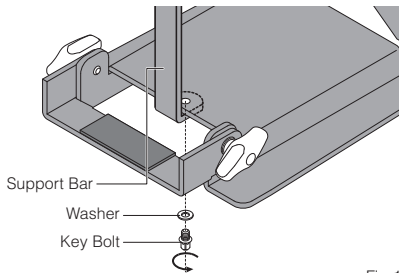
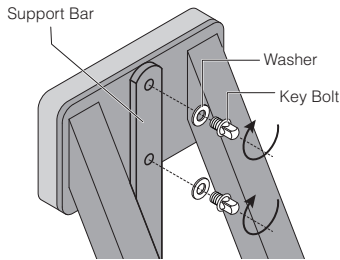

Fig.1
Fig.3
1. Partially raise the Pad on the Base Assembly and turn it on its side to rest on a stable flat surface. Next, place the Support Bar with the angled end under the base assembly. Insert a Key Bolt with Washer through the Support Bar into the threaded hole in the Base. Slightly tighten by turning the Key Bolt clockwise (Fig. 1). *Do NOT fully tighten the Key Bolt.*
3. Insert both Key Bolts with Washers through the Support Bar into the threaded holes located on the back of the PAD and finger tighten (Fig.3).
4. Next, firmly secure the Support Bar to the Pad and Base by tightening all three Key Bolts using the Drum Key supplied (Fig.1 & Fig.3).